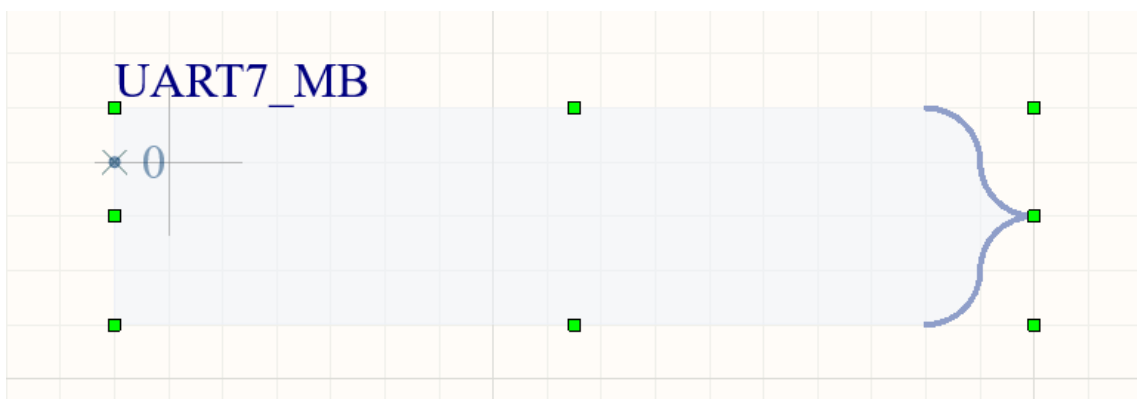

Figure 7. Place Harness Entry inside Harness Connector
- a) Move your cursor to the inside of the Harness Connector as shown in Figure 7.
- e) Left-click to place the Harness Entry in the Harness Connector, like in Figure 7.